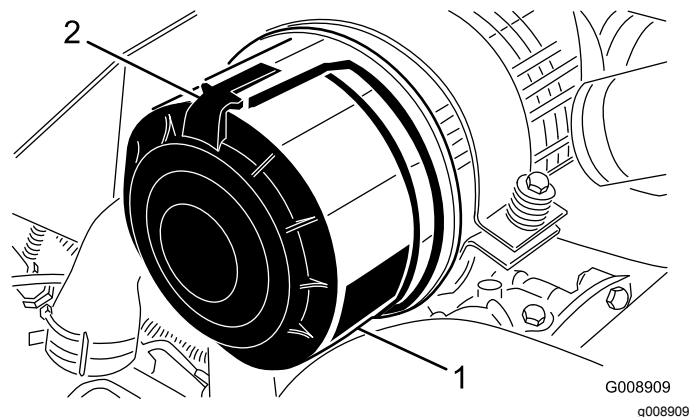

Figure 88
1. Release the latches securing the air-cleaner cover to the air-cleaner body (Figure 88).